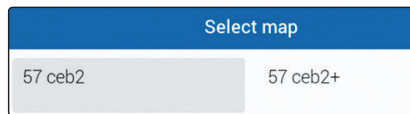

Fig. 232
- Select a map from the list (Fig. 232).